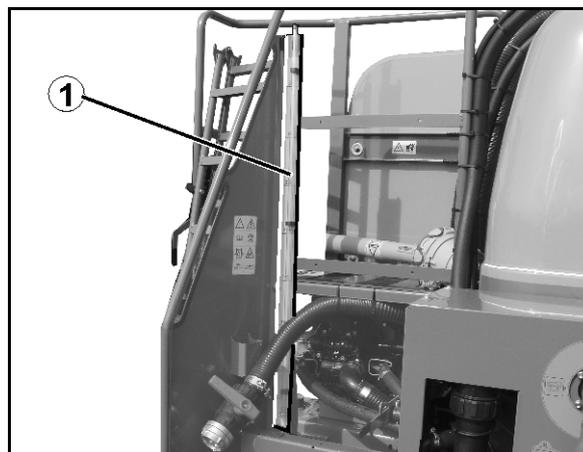

Fig. 52
- Filling connection with free flow path and swivel spout (Fig. 52).